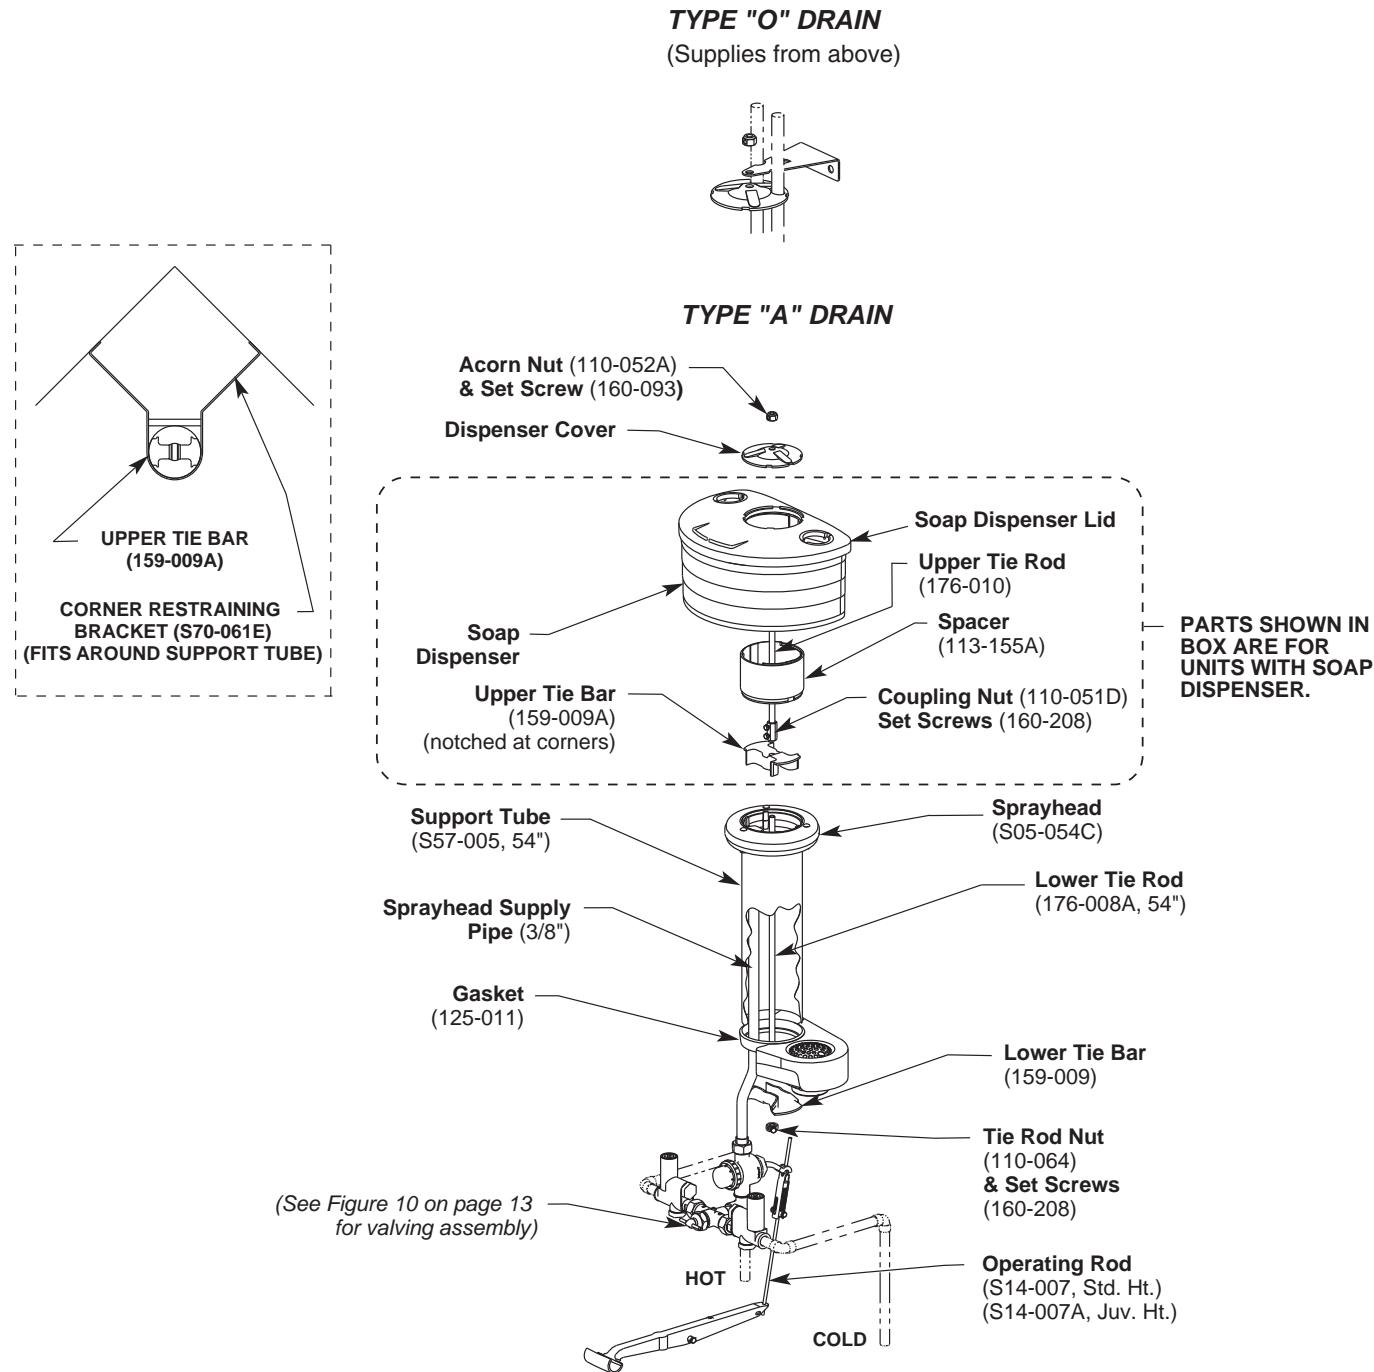

Figure 8
1. Install the hemmed end (not sharp end) of the support tube (welded seam toward the walls) with the gasket into the bowl (see Figure 8 on page 10).
2. Insert the tie rod assembly through the hole in the upper tie bar and secure with the lower tie bar, tie rod nut and setscrew from below (see Figure 8).
1. Place the dispenser cover on the sprayhead. Thread the acorn nut onto the lower tie rod, run the tie rod through the dispenser cover and restraining bracket and secure from below with the lower tie bar, tie rod nut and socket setscrew (see Figure 8).